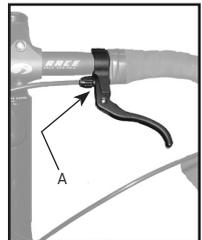

Figure 27- Mid-bar brake lever
- On mid-bar levers (Figure 27)- 20-30 lb•in (2.3-3.3 N•m).